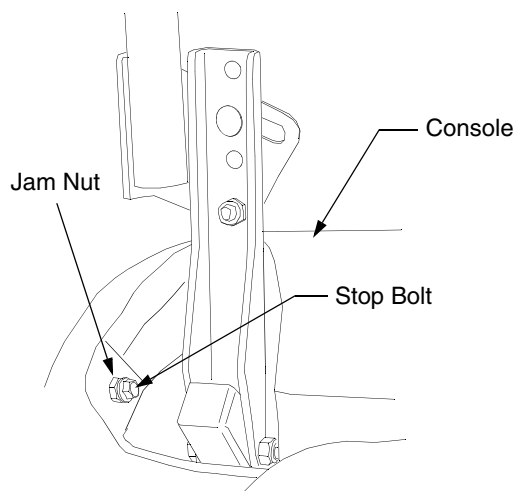

Figure 28
- Locate the applicable stop bolt on the left or right console. See Figure 28.